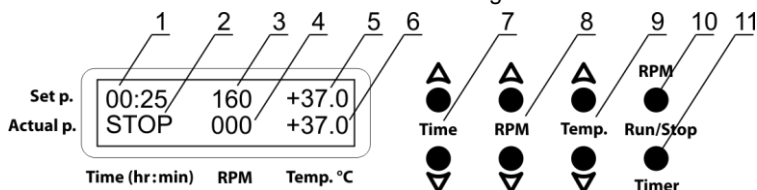

Figure 1. Control panel
- 5.3 The display turns on. The upper line shows the previously set time in hours and minutes (fig. 1/1), speed in RPM (fig. 1/3) and temperature in °C (fig. 1/5). The lower line shows current readings of the same parameters: the timer (indication STOP, fig. 1/2), speed (fig. 1/4) and chamber temperature (fig. 1/6) that automatically starts rising according to the set temperature.
- 5.4.1 **Setting time (Time).** Using the ▲ and ▼ **Time** keys (fig. 1/7) set the required working time interval in hours and minutes (increment 1 min).
- 5.4.2 **Setting speed (RPM/Shaker).** Using the ▲ and ▼ **RPM** keys (fig. 1/8) set the required shaking intensity in revolutions per minute (increment 10 rpm).
- 5.4.3 **Setting temperature (Temp.°C).** Using the ▲ and ▼ **Temp.** keys (fig. 1/9) set the required temperature (increment 0.1°C). The chamber heating starts automatically.
**Caution!** The chamber heating can only be stopped manually by reducing the temperature with the ▼ **Temp.** key (fig. 1/9) until the OFF indication appears in the in upper line of the **Temp.°C** display segment.
5.5.2 Press the **RPM Run/Stop** key (fig. 1/10, called the **Shaker Run/Stop** key on **ES-20/60**). The platform starts rotating and the timer starts counting the time interval, with 1-minute precision.
5.6 **Finishing the program.** After the set time elapses, the platform motion stops and the display shows a flashing reading STOP (fig. 1/2) accompanied by a repetitive sound signal until the **RPM** or **Shaker Run/Stop** key is pressed.
5.7 If the working time is not set and the timer in the upper line (fig. 1/1) shows 00:00, pressing the **RPM** or **Shaker Run/Stop** key starts continuous operation of the unit. The **Time** segment of the display shows an OFF indication in the upper line (fig. 1/1) and a countdown timer in the lower line (fig. 1/2). Pressing the **RPM** or **Shaker Run/Stop** key stops the platform motion.
**Caution!** At the end of the set time, platform movement is stopped automatically, but heating can only be stopped manually by reducing the temperature with the **▼ Temp.** key (fig. 1/9) until the OFF indication appears in the in upper line of the **Temp.°C** display segment.
5.8 The timer can be restarted during the unit operation if necessary. Press the **Timer Run/Stop** key twice (fig. 1/11), first time – to stop the timer, second – to restart it.